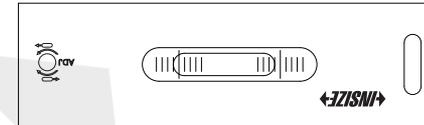

Fig.3
c) Turn the level 180°, slide (not put) the level at the same position of the surface (Fig.3).